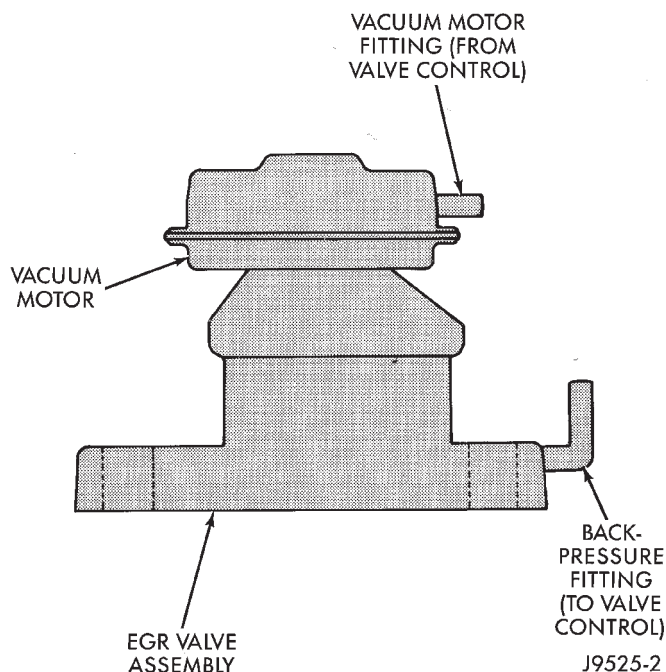

Fig. 4 Typical EGR Valve
(1) All engines are equipped with two fittings located on the EGR valve (Fig. 4). The upper fitting (located on the vacuum motor) supplies engine vacuum to a diaphragm within the EGR valve for valve operation. The lower fitting (located on the base of the EGR valve) is used to supply exhaust back-pressure to the EGR valve control.
(2) Disconnect the rubber hose at the vacuum motor fitting (Fig. 4) on the top of the EGR valve vacuum motor.
(3) Connect a hand-held vacuum pump to this fitting.
(4) Start the engine.
(5) Slowly apply 5 inches of vacuum to the fitting on the EGR valve motor.
(6) While applying vacuum, a minimum of 3 inches of vacuum, and with the engine running at idle speed, the idle speed should drop or the engine may even stall, if the vacuum is applied quickly. This is